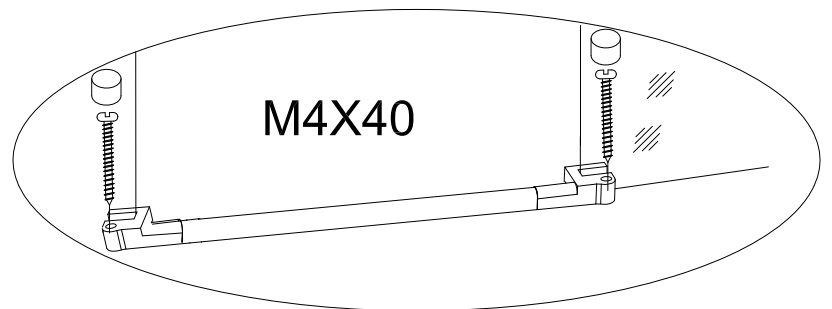

Fig.29
Using the hardware from screw pack 3 install the threshold bar assembly. Install the decorative screw plug covers into Threshold End Caps (12). See Fig.29 for details.